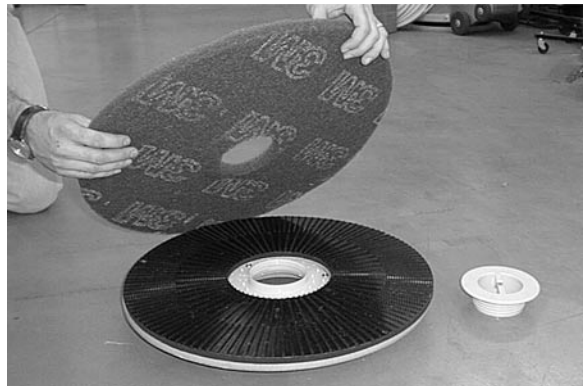

FIG. 8
6. **(For Pad Installation)** Attach pad to pad driver before connecting driver to motor hub. Secure with centerlock ring (Figure 8).